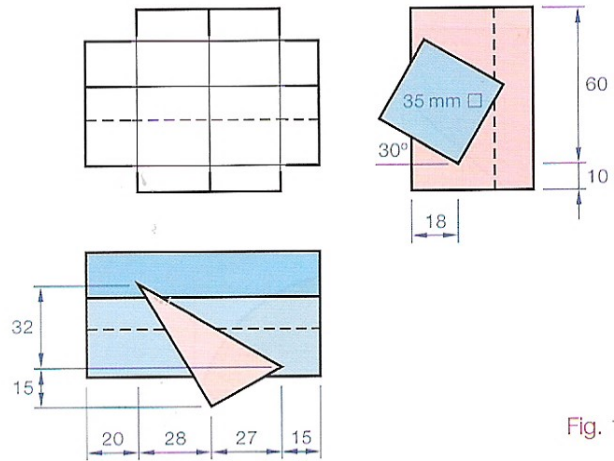
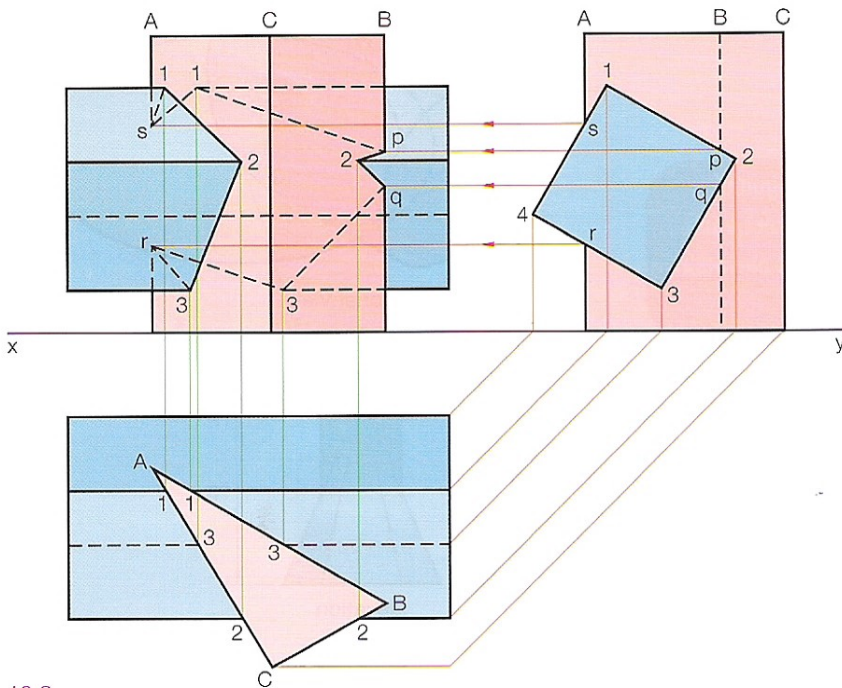

Fig. 10.7
Fig. 10.8
**Given the plan and end view of two intersecting prisms. Draw the given views and project the front elevation, Fig. 10.7.**
- (1) Draw the given views.
- (2) The edge, 1 of the square prism intersects the triangular prism in two places. Similarly for edge 2 and edge 3 of the square prism. It can be seen from the end view that edge 4 does not intersect the triangular prism. All six of these points are found in plan and projected to elevation.
- (3) The bend points p, q, r and s are seen in end view and projected across to the front elevation.
- (4) The sequence of joining the points is found from the end elevation, s, 1, p, 2, q, 3, r, 3, 2, 1, s, Fig. 10.8.